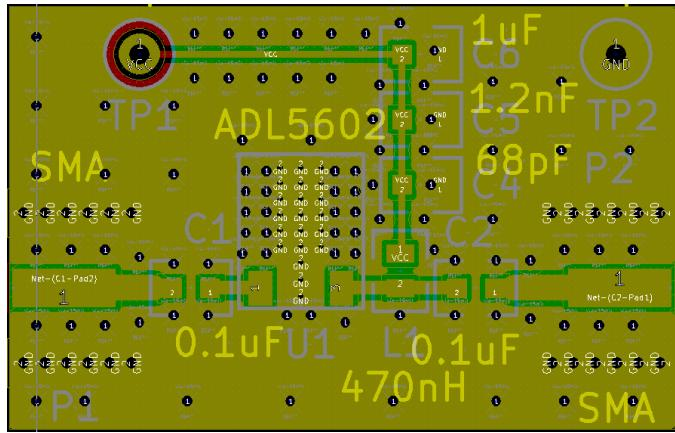

Figure 49: Layout of the example 2 circuit after via stitching.
- In the Pcbnew, click the “Add footprints” button and click on the main layout window to insert a footprint directly. Select the “via-15mil” footprint and place it along the edges of the copper fill. For via fences around RF traces, a rule of thumb is to set the via spacing no larger than 1/20th of the propagation wavelength. Obviously you also need to make sure that the via spacing is not too small as to violate the design rules of the PCB manufacturer. Fig. 49 shows the layout after the via stitching.